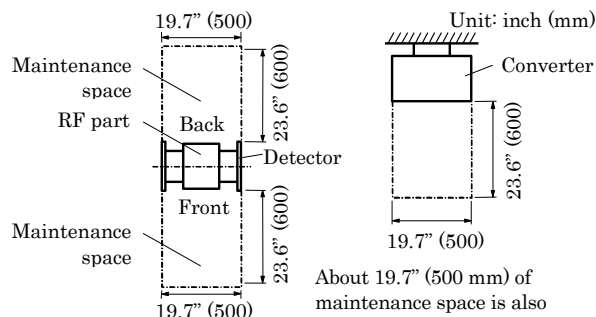

Figure 5. Clearance space
- (1) Choose a place that is free of vibrations and corrosive gasses as possible, and has ample space for maintenance.
- (2) Secure maintenance space around the converter and detector RF section. (Refer to Figure 5)
- (3) In the case of outdoor installation, provide coverage against sun and rain. (both converter & detector)
- (4) It is recommended that the converter be installed about 1.5m (the position of windows) from the floor. The display is on the front panel of the density/%TS meter. Install the converter in a location and orientation easy to see this display.
- (5) Do not install the meter in a place where there is a possibility of leakage of flammable or explosive gas.
- (6) Do not install the meter in any of the following places:
- (7) Install the meter in a place where air bubbles are not generated, where pipe is always full of fluid, and sedimentation and accumulation of solid matter do not occur.
- (8) Install the meter in a place where density distribution is uniform. If the distribution inside the pipe is uneven, manual analysis data and the indicated value of the density meter may not show the same value.
- (9) Ensure that the flow rate of the fluid to be measured is 0.6m/s or more.